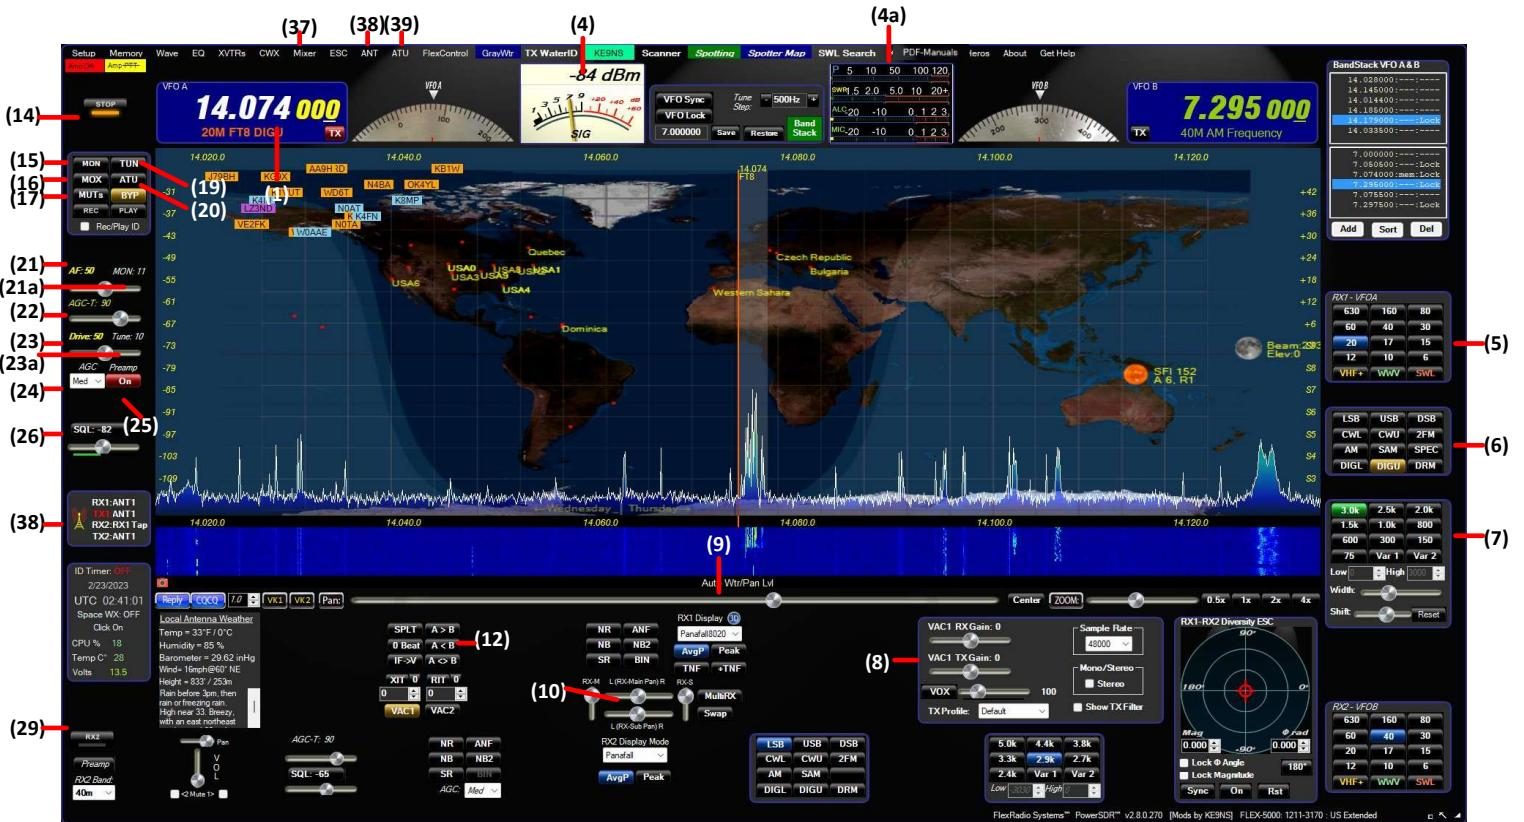
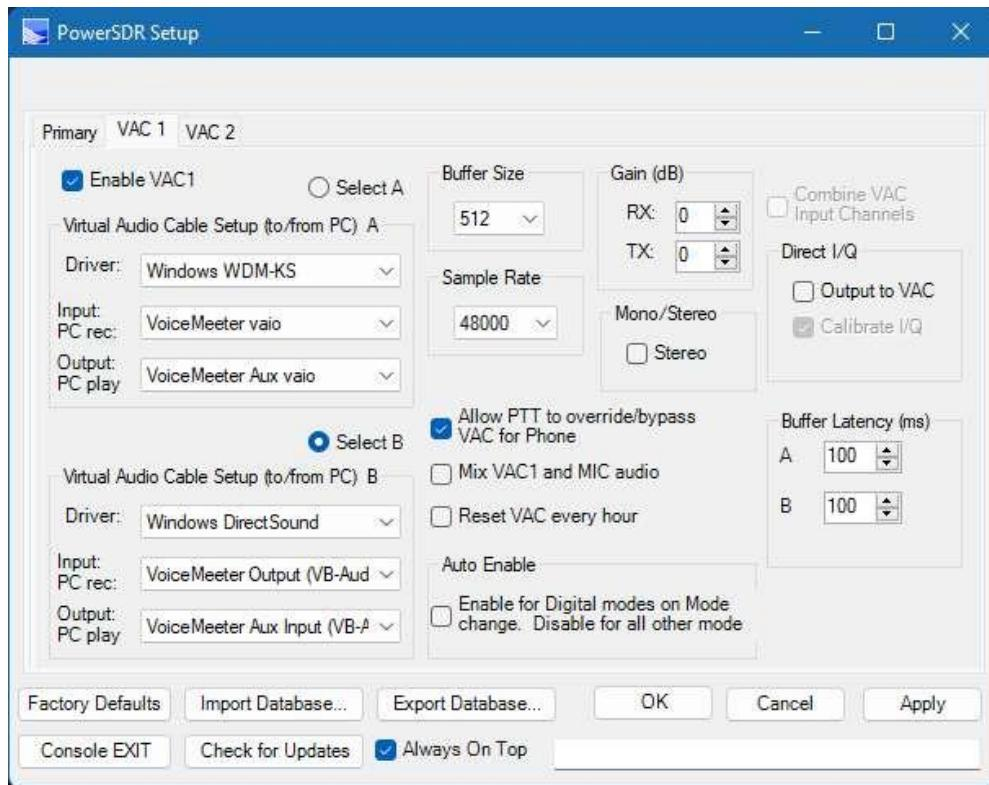
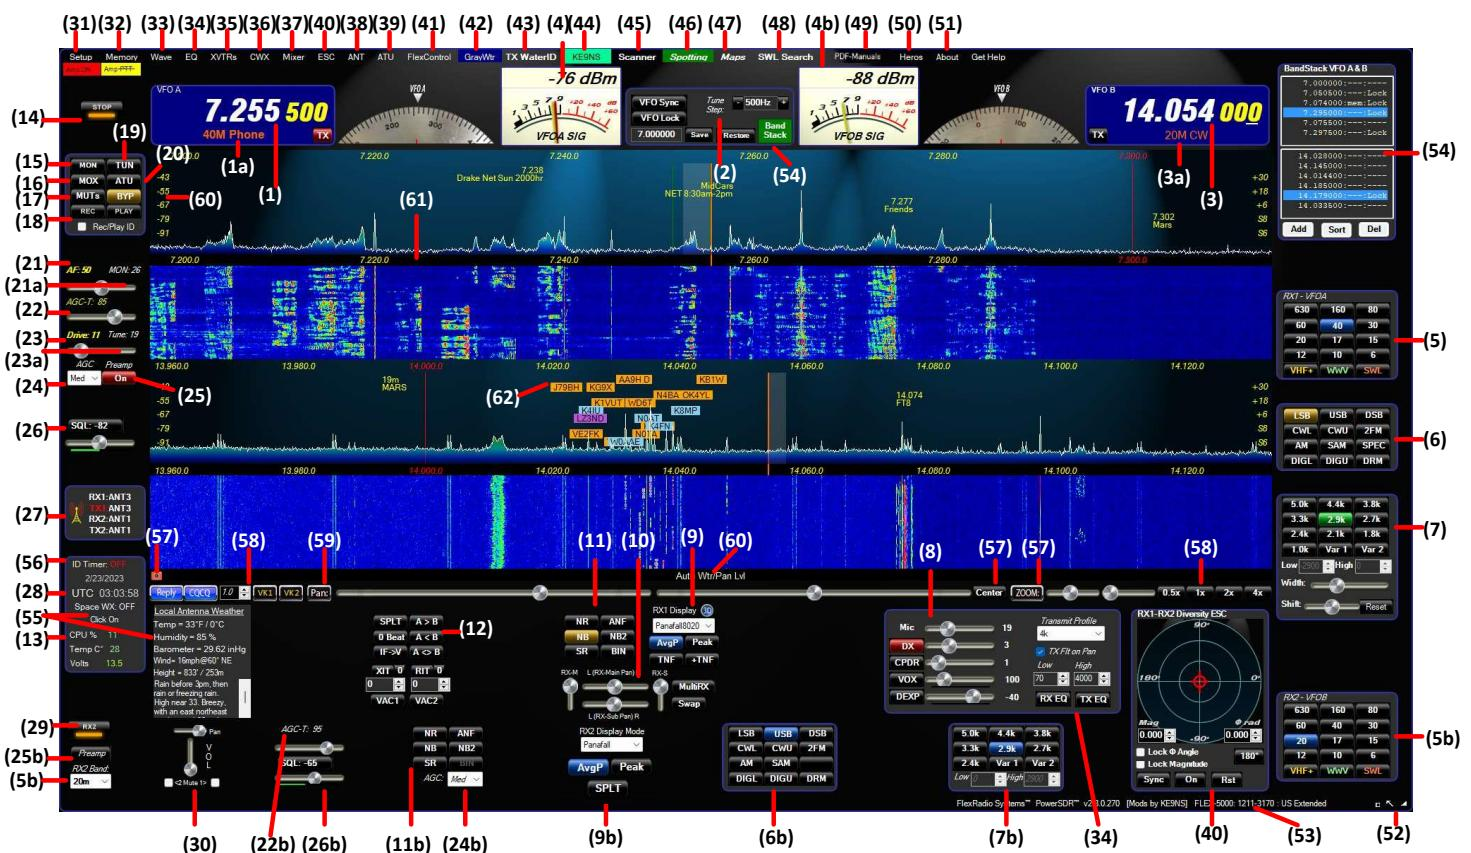

Figure 44: Front Panel Controls Used for Basic Digital Mode Operation
Figure 45: Setup -> Audio -> VAC1
Figure 46: PowerSDR 2.0 Front Console
Please use Figure 44 to identify the controls referenced in the following step-by-step instruction. For consistency we have used the same control identifiers as in Figure 46 on page 73 and for clarity we have left out any identifiers of controls not referenced.
- In PowerSDR open the **Setup-> Audio-> VAC1** (see Figure 45 below). Check **Enable VAC1**, Select a *Virtual Cable* (like **VoiceMeeter Output**) as the **Input**, and a *Virtual Cable* (like **VoiceMeeter Aux input**) as the **Output**. If your digital mode software requires a stereo connection, check **Stereo**. To automatically enable VAC for **DIGU**, **DIGL** and **DRM** (**6**) modes, check **Auto Enable**. When operating these modes, the Front Console also shows several controls relating to VAC (8), as shown in Figure 44 above). You can now use **VOX** to PTT the radio. This prevents audio from becoming out of sync after hours of continuous operation or Check **Reset VAC every hour**.
Right Click on the digital dBm value area will toggle the Meter RX/TX selection menu OFF/ON. Setup-> Appearance-> Meter-> **Meters On Top** (just like Figure 46)
BandStack Window: Click on the “Band Stack” button (See figure 51a). With the BandStack window active, click the Add, Sort, or Del (Delete button). Right click on bandstack memory to “Lock” it from being overridden. **Left Click** on any band stack memory will jump to this memory (VFOA on top and VFOB on bottom). If Meters on top, BandStack window appears top right (see Fig 46). **Right Click** on “Band Stack” button for Floating Band Stack Window.